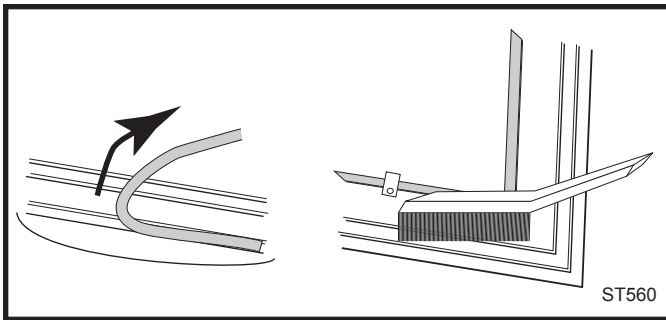

Fig. 45 Remove gasket then clean channel with wire brush.
1. Remove the existing gasket by grasping an end and pulling firmly. (Fig. 45)
2. Use a wire brush or the tip of a screwdriver to clean the channel of any remaining cement or bits of gasket. Remove stubborn deposits of cement with a cold chisel if necessary. (Fig. 45)